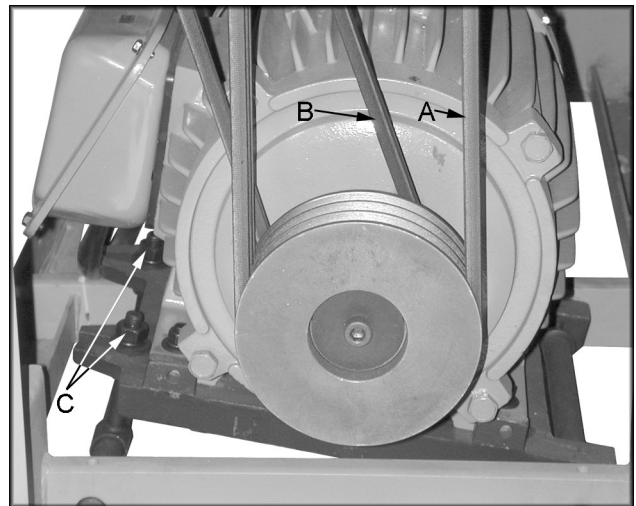

Figure 21
Three v-belts (A, Figure 21) drive the cutterhead. The single v-belt (B, Figure 21) drives the in-feed and out-feed rollers. Belt tension has been set at the factory. If the belts have stretched and need adjustment.
2. Open lower rear, and lower left-hand side panels. Loosen and tighten four adjustment nuts (C, Figure 21) to move motor plate up, or down to increase, or decrease belt tension. Tighten nuts against motor plate after adjustment is made.